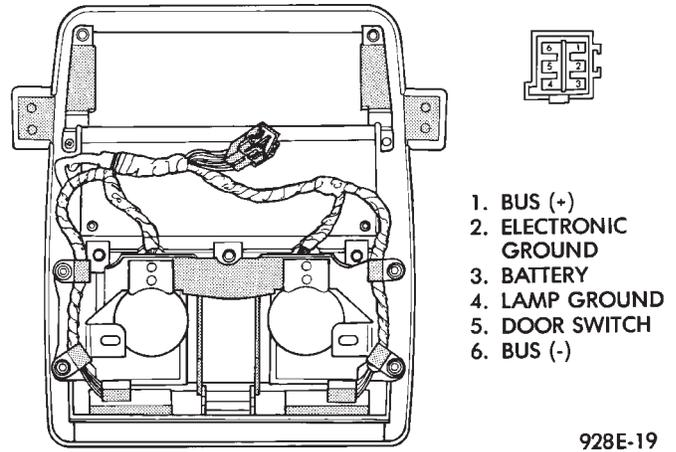

Fig. 7 Compass Module Removal
(2) Using a small screwdriver, release the 2 snaps at rear of compass module (Fig. 7).
(3) After releasing the 2 snaps, slide compass module rearward until free of mounting bar.
(4) For installation reverse above procedures.